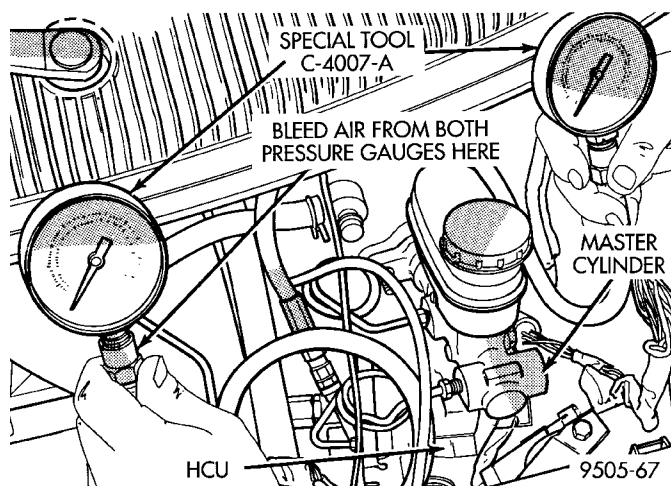

Fig. 31 Pressure Gauges Installed On Pressure Test Fittings At HCU
(8) Install a Pressure Gauge, Special Tool C-4007-A into each pressure test fitting (Fig. 31). Bleed air out of hose from pressure test fitting to pressure gauge, at pressure gauge to remove all trapped air.